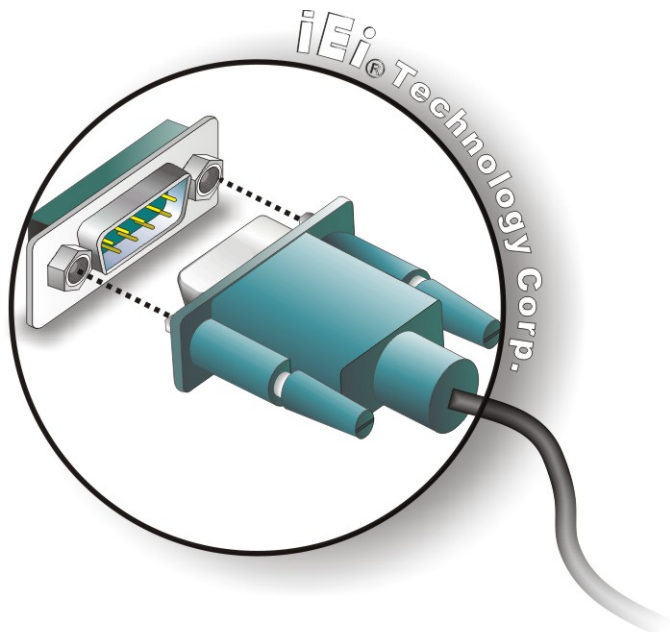

Figure 3-18: Serial Device Connector
Step 2: Insert the serial connector. Insert the DB-9 connector of a serial device into the DB-9 connector on the external peripheral interface. See Figure 3-18.